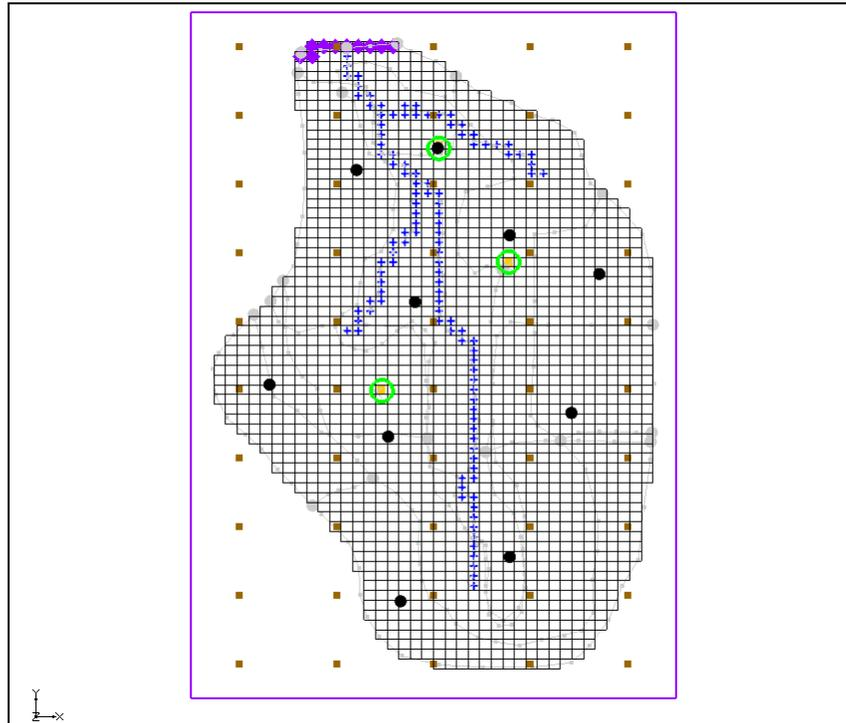

Figure 6 Location of pumping wells
Notice that there are three pumping wells in the model (Figure 6, the center of each green circle). For purposes of illustration, assume that a pump test was performed at each of these wells and the HK was estimated.
- Using the **Create Scatter Points**  tool, create a scatter point at each of the pumping wells as shown in Figure 6.